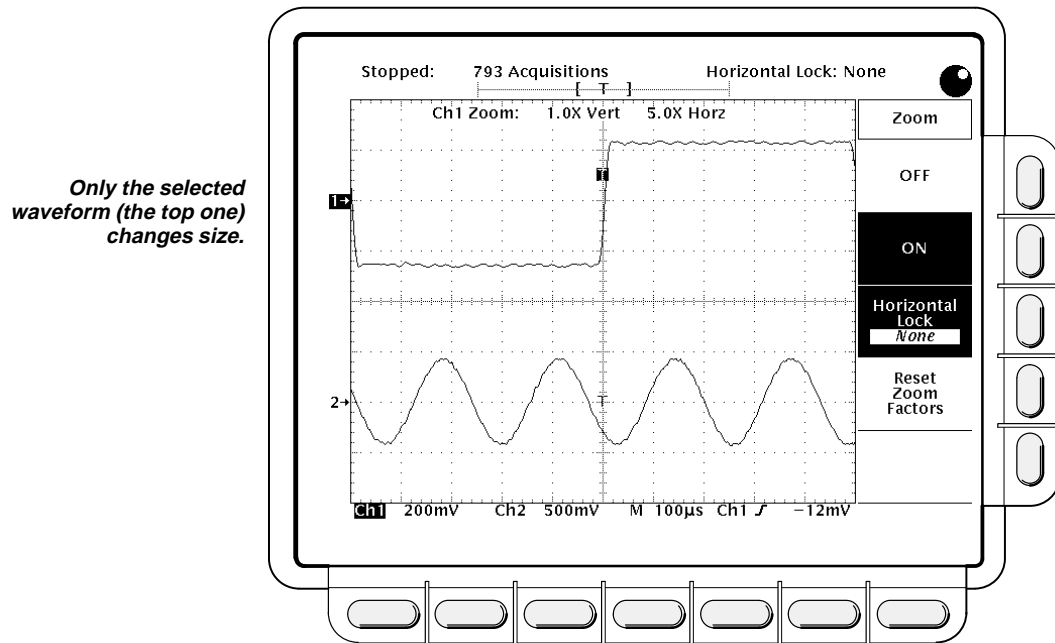

Figure 3-61: Zoom Mode with Horizontal Lock Set to None
- **None**—only the currently selected waveform can be magnified and positioned horizontally (Figure 3-61).